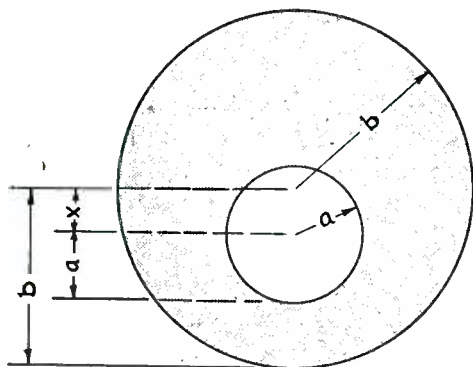

Fig. 1—Configuration of eccentric transmission line with inner conductor displaced by amount x
δ_1 is given by Eq. (1) or Fig. 1.
0.34, and 5. These correspond approximately to silver coating on brass, solder coating on copper, and copper coating on iron or Fernico. It is seen that in all cases when coating thickness is equal to or greater than the depth of penetration, δ_1 , for the material of the coating (obtained from Eq. 1 or Fig. 1), the composite conductor is nearly as good, or as bad, as though the conductor were made entirely of the coating material.
R_2 given by Eq. (2) or Fig. 1.
It is of interest to find that the first order corrections are independent of conductivity of the coating. For any practical cases (d/λ small and R_{s2} less than one, as shown by Fig. 1) the correction to resistance is always small, but the correction to internal reactance may be very large since the coating may be much thicker than depth of penetration in the coated conductor, and so may contain much more magnetic flux than the coated conductor.
If there is no insulation present in the transmission line, we may use $v = 3 \times 10^{10}$ cm per second, and compute C from the static capacitance between conductors. The configuration in which we are interested is shown in Fig. 1. The radius of the outer conductor is b , the radius of the inner conductor is a , while the axis of the inner conductor is displaced an amount x from the axis of the outer conductor. The capacitance of this configuration is¹